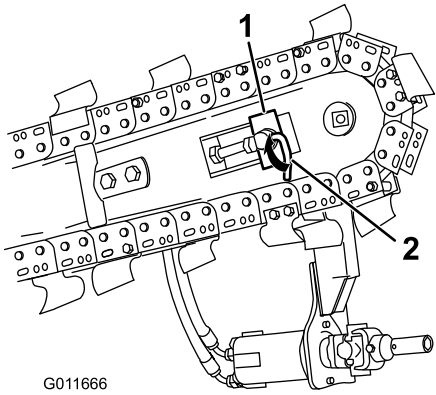

Figure 23
5. Rotate the clamp plate 90 degrees and tighten the lever-lock bolt; flip the lever to lock it in place (Figure 23).